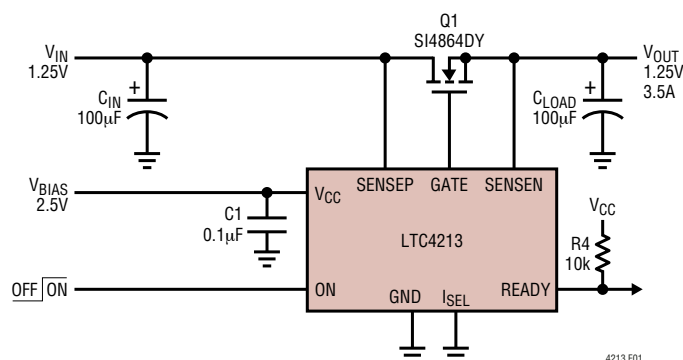
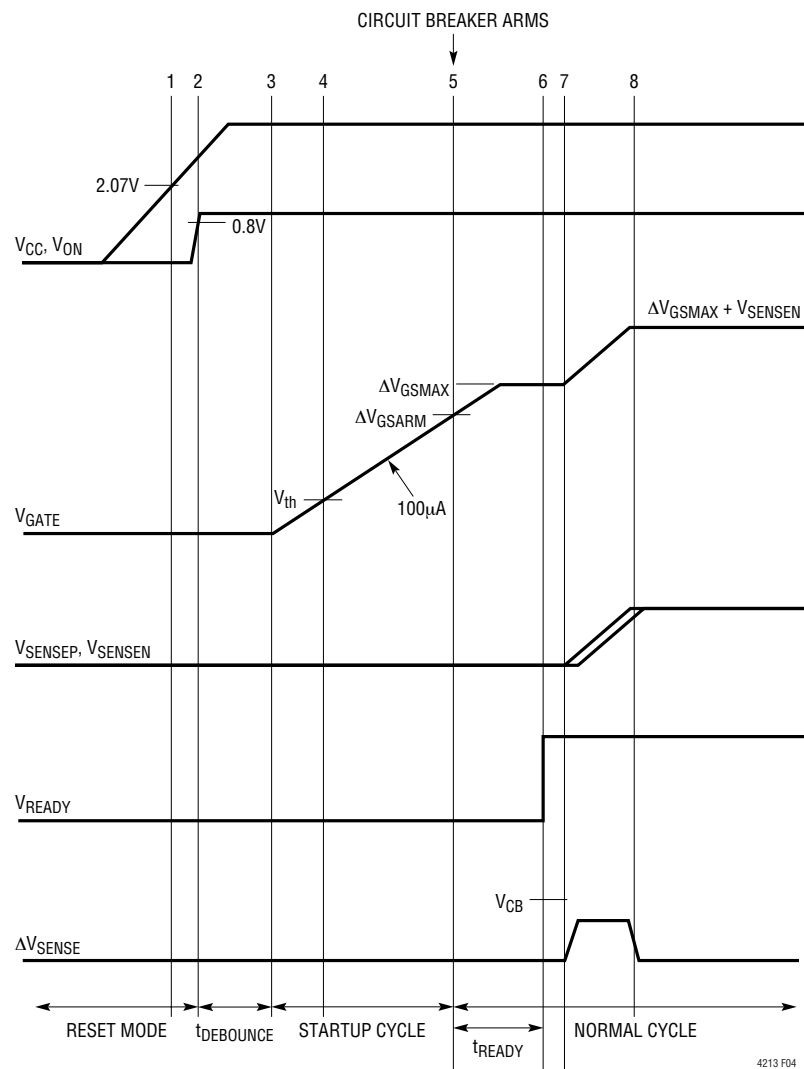
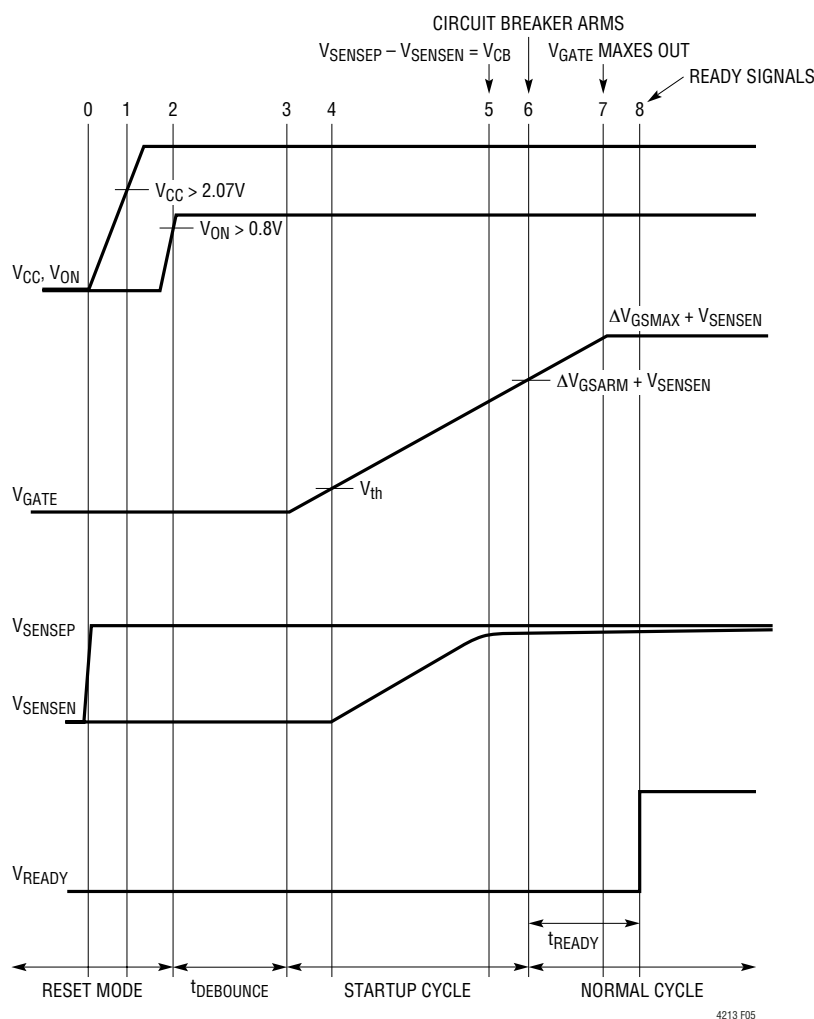

Figure 1. LTC4213 Electronic Circuit Breaker Application
Figure 4. Load Supply Power-Up After Circuit Breaker Armed
Figure 5. Load Supply Power-Up Before V_{CC}
Figure 1 shows an electronic circuit breaker (ECB) application. An external auxiliary supply biases the V_{CC} pin and the internal circuitry. A V_{IN} load supply powers the load via an external MOSFET. The SENSEP and SENSEN pins
Figure 4 shows a normal power-up sequence for the circuit in Figure 1 where the V_{IN} load supply power-up after circuit breaker is armed. V_{CC} is first powered up by an auxiliary bias supply. V_{CC} rises above 2.07V at time point 1. V_{ON} exceeds 0.8V at time point 2. After a 60 μs debounce delay, the GATE pin starts ramping up at time point 3. The external MOSFET starts conducting at time point 4. At time point 5, V_{GATE} exceed $\Delta V_{\text{GS(ARM)}}$ and the circuit breaker is armed. After 50 μs (t_{READY} delay), READY pulls high by an external resistor at time point 6. READY signals the V_{IN} load supply module to start its ramp. The load supply begins soft-start ramp at time point 7. The load supply ramp rate must be slow to prevent circuit breaker tripping as in equation (8).
Referring back to Figure 1, the V_{IN} load supply can also be powered up before V_{CC} . Figure 5 shows the timing diagram with the V_{IN} load supply active initially. An internal circuit ensures that the GATE pin is held low. At time point 1, V_{CC} clears UVLO and at time point 2, ON clears 0.8V. 60 μ s later at time point 3, the GATE is ramped up with 100 μ A. At time point 4, GATE reaches the external MOSFET threshold V_{TH} and V_{OUT} starts to ramp up. At time point 5, V_{SENSE} is near its peak. At time point 6, the circuit breaker is armed and the circuit breaker can trip if $\Delta V_{SENSE} > V_{CB}$.
There is no current limit monitoring during output charging for the figure 5 power-up sequence where the load supply is powered up before V_{CC} . This is because the GATE voltage is below ΔV_{GSARM} and the MOSFET may not reach the specified $R_{DS(ON)}$. The V_{IN} load supply should have sufficient capability to handle the inrush as the output charges up. For proper startup, the final load at time